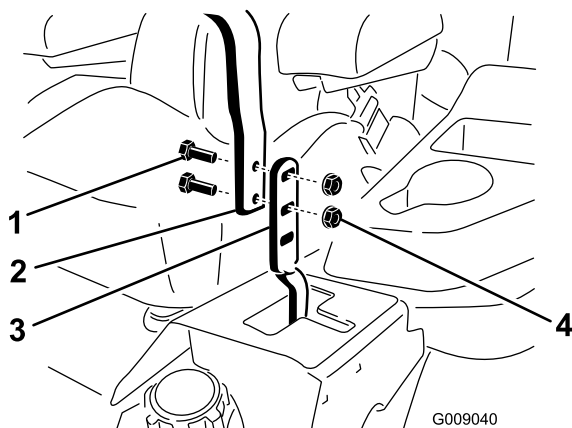

Figure 60
3. Loosen the bolts and flange nuts installed in the levers (Figure 60).